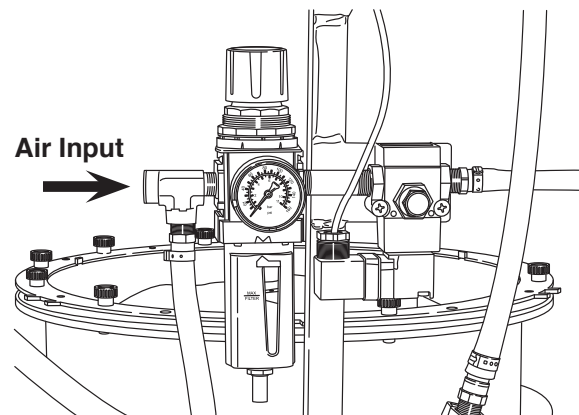

Figure 14
4. Attach a hose adapter (not included) and a 3/8 in. compressed air line to the pneumatic filter / regulator input. See Figure 14. The air line should have a sustained compressor capacity of 100 psi, and be clean and free of moisture.